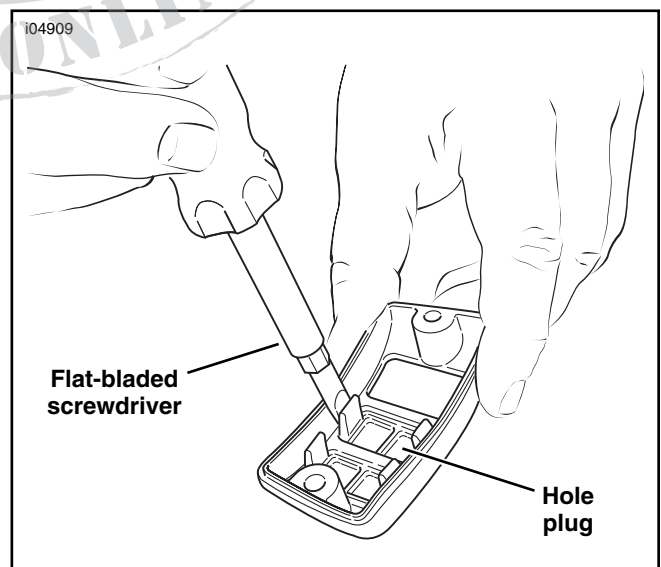

Figure 6. Remove/Reposition Hole Plug(s)
11. See Figure 6. Using a flat-bladed screwdriver, carefully compress the tab and remove the hole plug from the housing cover. If relocating the hole plug, snap the plug in the desired new location.